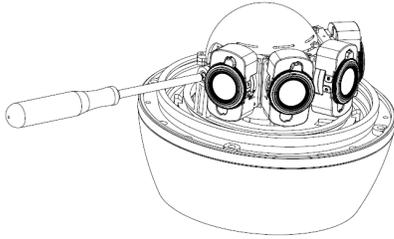

Figure 20: Loosen both screws on the gimbal bracket
- To adjust the tilt, use a #2 Phillips screwdriver to loosen both screws on the sides of the plastic gimbal bracket 1/4 turn (Figure 20). NOTE: Do not remove the screws!